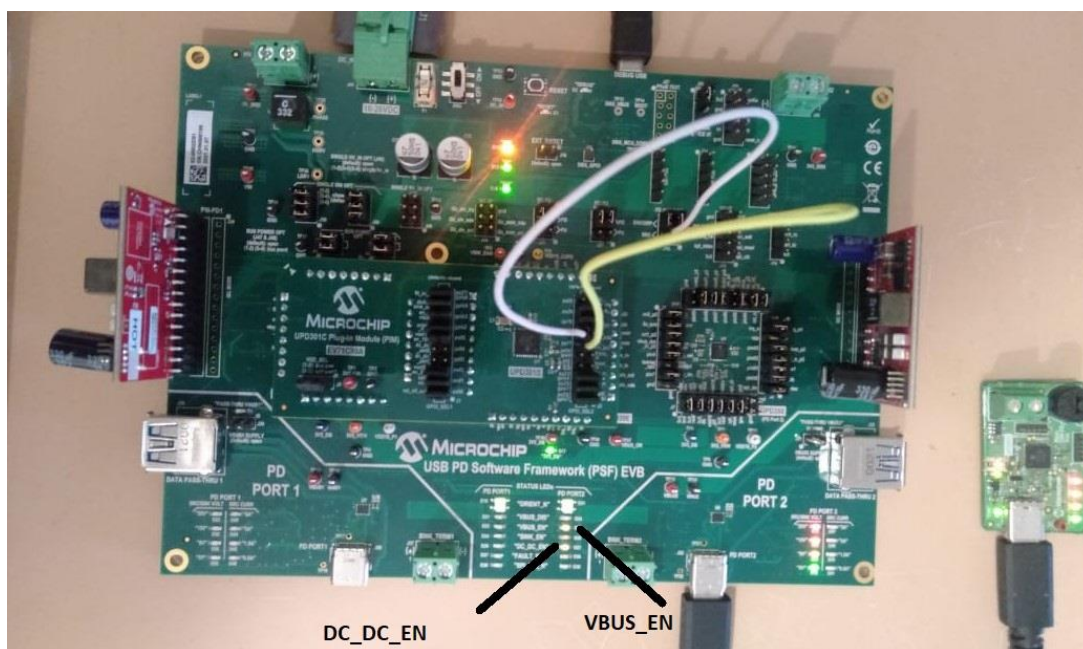

Figure 7.2 Status of VBUS_EN, DC_DC_EN and PDO LEDs when attached as Source
4. Once an explicit power contract negotiation is in place, the device starts charging. PDO status LEDs will turn on indicating the negotiated voltage as shown in Figure 7.2